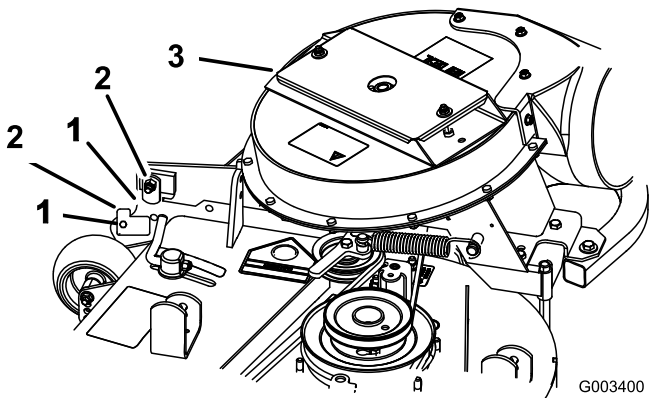

Figure 15
3. Close the blower assembly to see if the latches are adjusted correctly (Figure 15).
Note: Loosen or tighten the bolt so the latches firmly hold the blower assembly against the mower deck but can be released by hand (Figure 15).